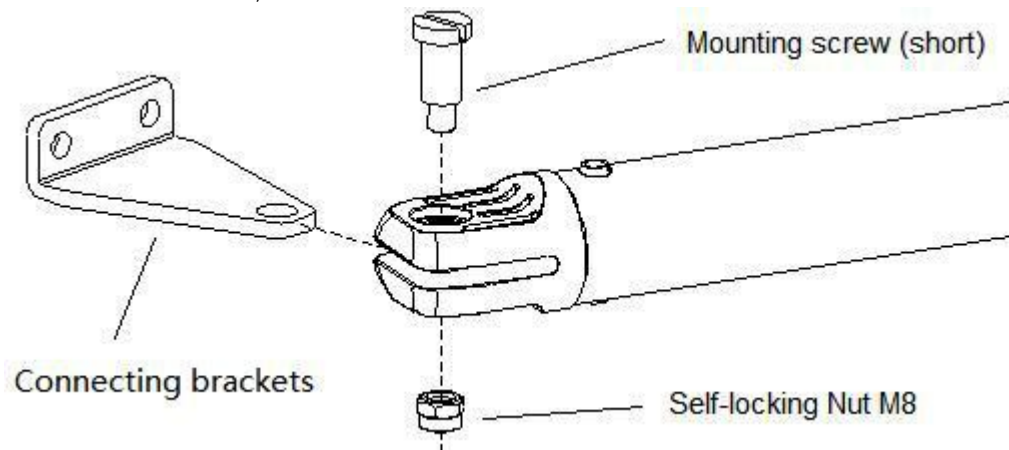

Figure 8
E) As shown in figure 8 below, connect the wall bracket to the wall according to the position marked. Then connect the main machine to the wall bracket with screw and nut. (Use a level bubble to ensure level installation.)